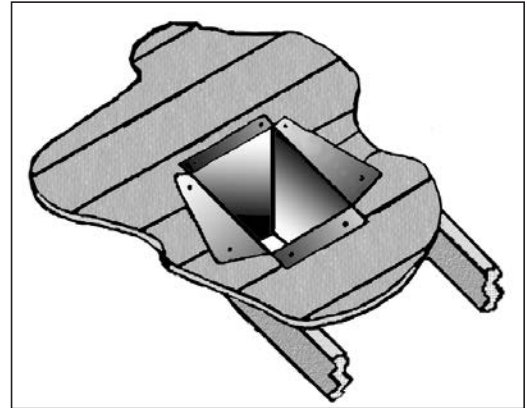

Figure 34: Cathedral Ceiling Support Box Installation.
4. Lower the "Support Box" through the hole in the roof until the bottom of the "Support Box" protrudes at least 2 inches (5 cm) below the ceiling. Align the "Support Box" both vertically and horizontally with a level as shown in Figure 34. Temporarily tack the "Support Box" in the place through the inside walls and into the roof sheathing.